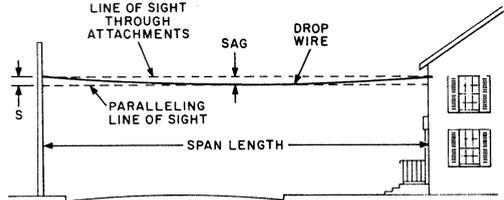

Fig. 1—Drop Wire Attachments on Same Level
3.01 The sag of drop wire in pole-to-house or pole-to-pole span is indicated in Fig. 1 and 2.